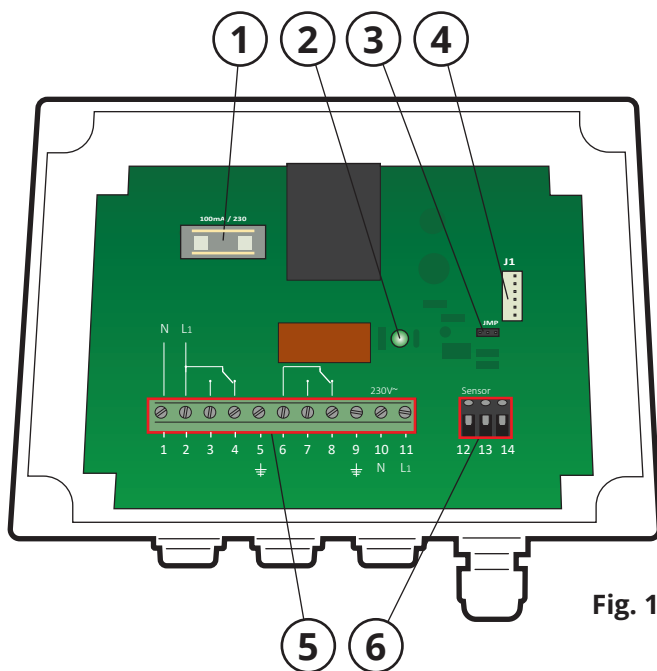

Fig. 1
S 200/115 is supplied with 115 VAC, which drives dampers and/ or contactors. The relay is activated by closing the circuit for the sensor terminal (6) or by a signal from an inductive sensor, for example pliers STG 200, see **Fig. 1**. When the relay is activated this is indicated by a diode (2).
The supply voltage is connected to terminals 9-11 (5), see Fig. 1. The supply cable for damper and/ or contactor is connected to terminals 1-8 (5). Start signal is connected to terminals 12 and 13 (6) for switches or 12, 13 and 14 (6) for sensors.